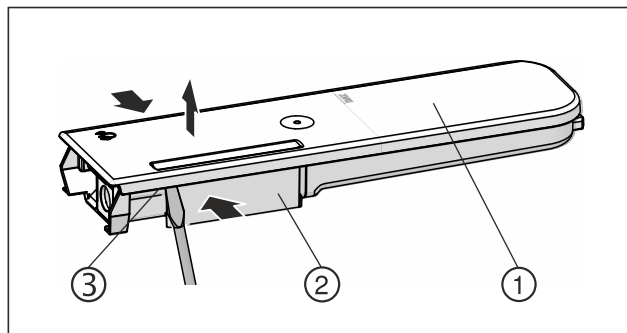

Fig. 151
- ▶ Squeeze the water tank Fig. 151 (2) and carefully lever the cover Fig. 151 (1) over the latches Fig. 151 (3) pull it up.
- ▶ Slightly move the cover Fig. 151 (1) back and forth and remove it from the top.